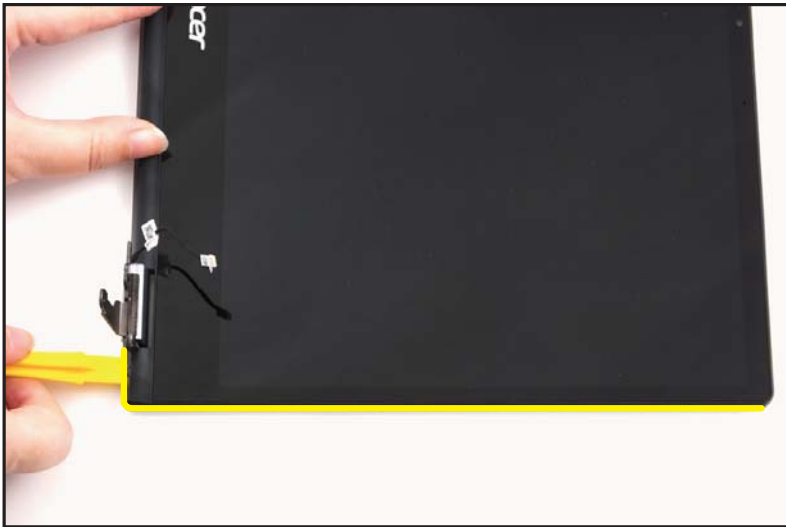

Figure 1-37. LCD Panel Removal
3. Continue along the right side of the LCD panel (Figure 1-37).